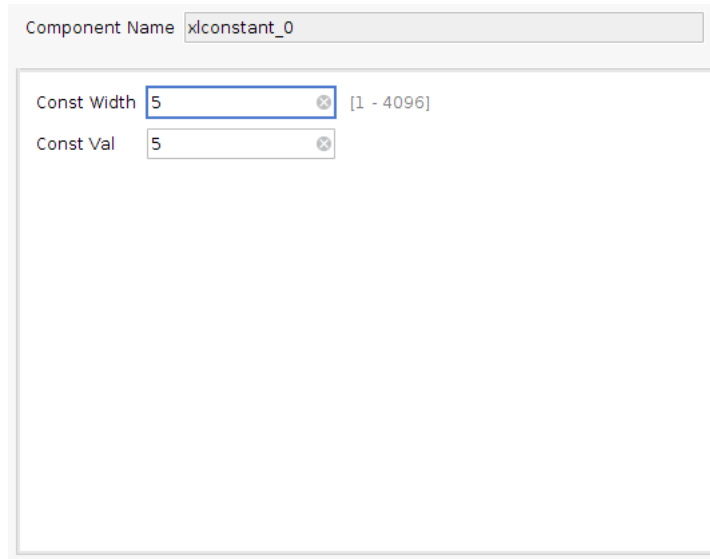

Figure 4: Constant configuration window.
7. Configure the **Constant** IP as shown in Figure 4. The constant value of 5 will simulate pushing buttons 0 and 2.